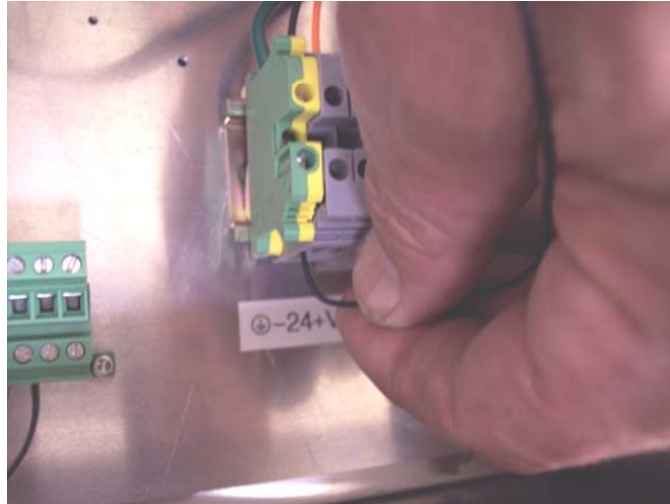
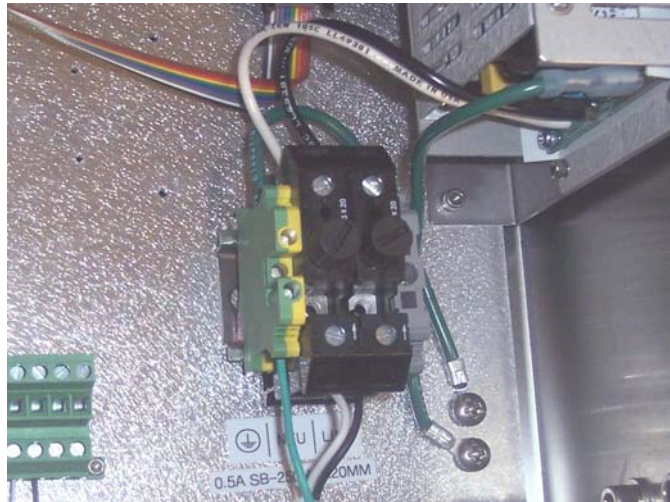

Figure 8: For 12- or 24-volt systems, connect DC minus line to terminal marked "-" and positive line to terminal marked "+."
Figure 9: Connect AC neutral wire to terminal marked "NEU," and hot wire to terminal marked "LINE."
5. Attach the neutral and hot wires to the power terminal strip by connecting the AC neutral wire to the terminal marked "NEU," the hot wire to the terminal marked "LINE" (see **Figure 9** on page 21), the DC minus line to the terminal marked "-", and the positive line to the terminal marked "+" (see **Figure 8** on page 21).